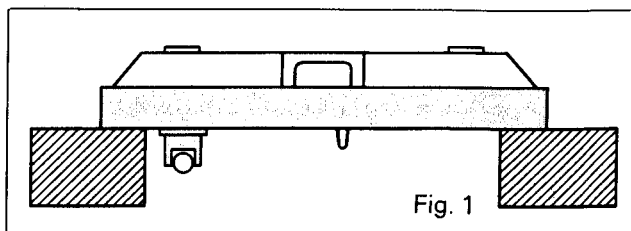

Fig. 1
- (1) Remove the dust cover.
- (2) Remove the turntable plater and prepare the unit to be moved by locking the mechanism in place with the three red screws.
- (3) Fix the tone arm in place with the lock lever of the arm rest.
- (4) Place the set on a suitable bench with the bottom base upward. (Fig. 1)